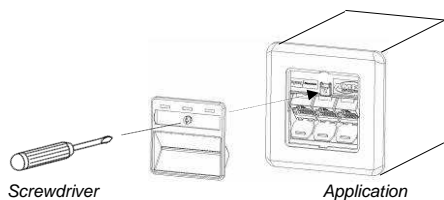

Fig. 8
- 5.5 Place the 50x50 outlet on the frame and fix it with the screw to the mounting frame (fig. 8).